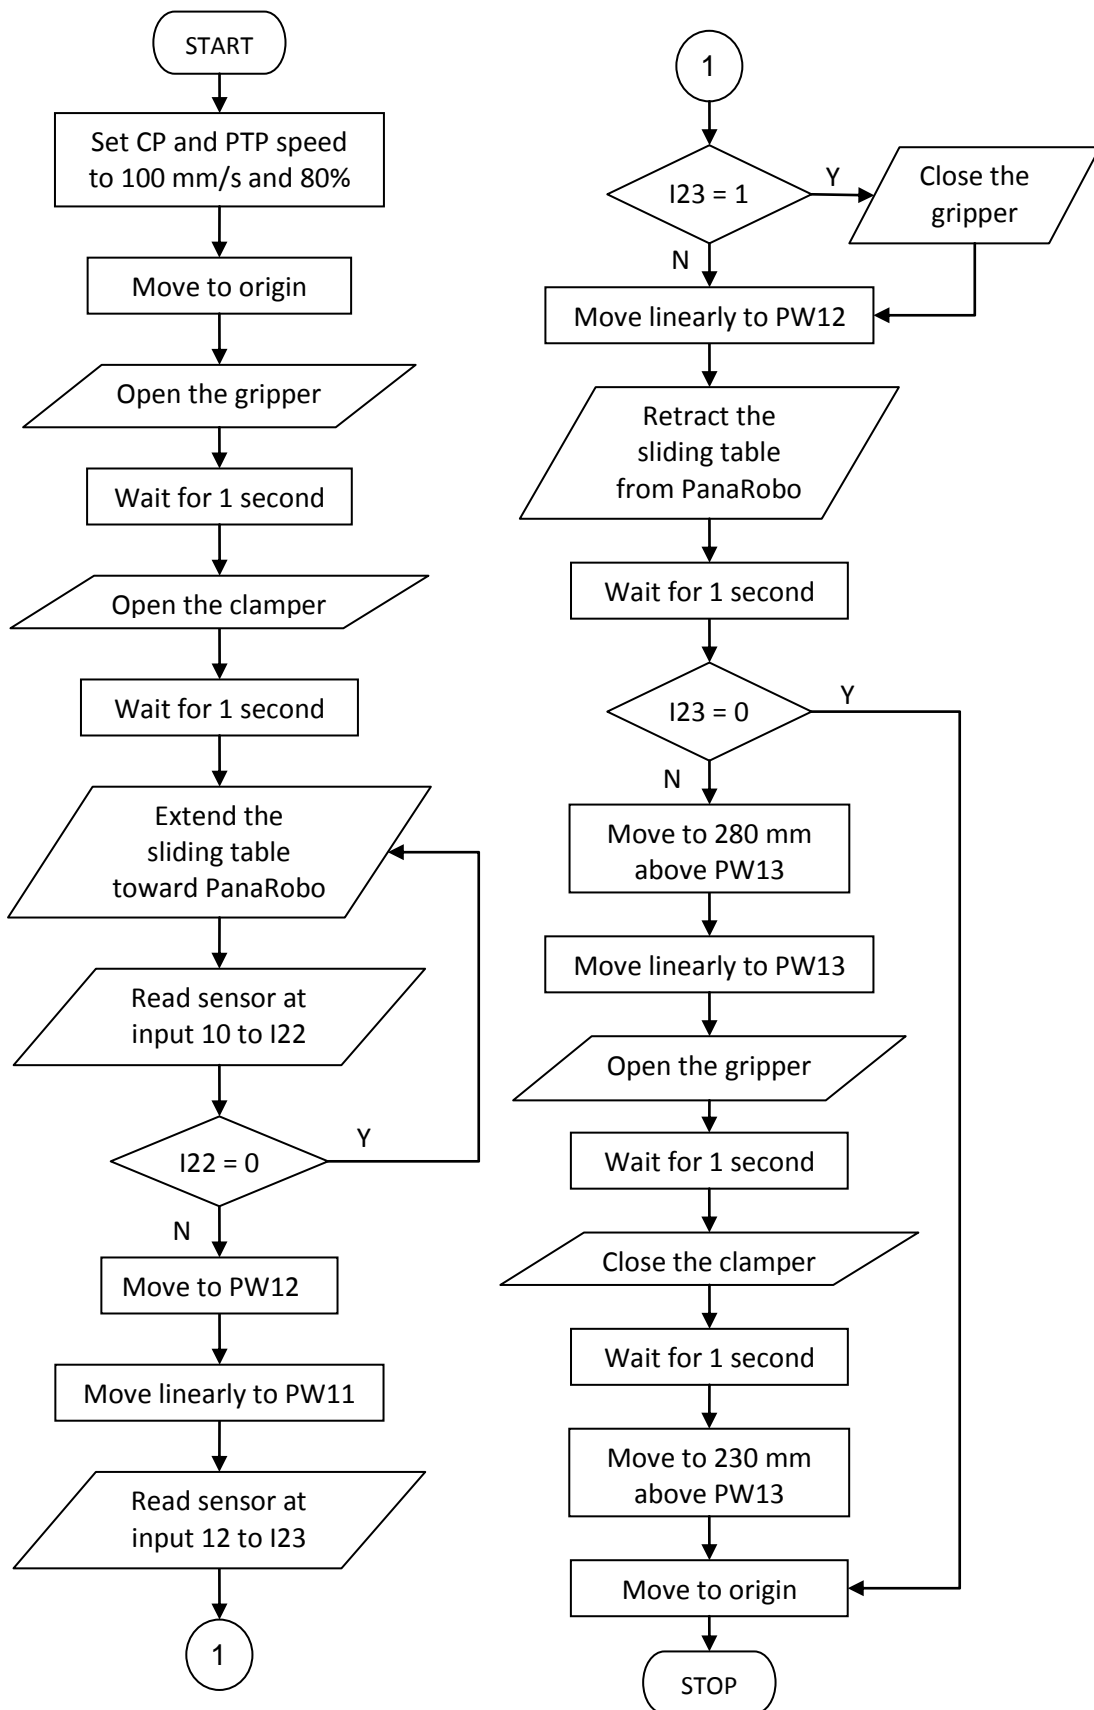

Figure Q1[c]
- [c] The flow chart in Figure Q1[c] shows the task of PanaRobo robot to pick a component from a sliding table and place it on an assembly station. The outputs and inputs of the robot are connected to the gripper, clamping cylinder, sliding table cylinder, magnetic sensor and optical sensor as shown in Table Q1[c]. Write a program for the robot in memory 7 according to the given flow chart.**